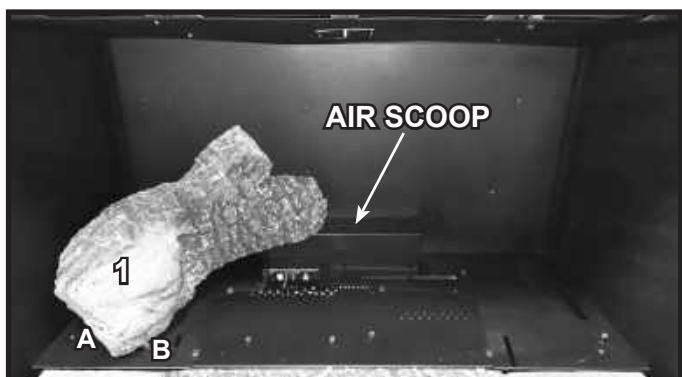

Figure 10. Log #1 Installed
**LOG #1:** Locate the cutout on the end of Log #1. The other end of Log #1 will set between log pins A and B. Rotate the cut-out end back until the cut-out fully engages the air scoop. See Figure 10.